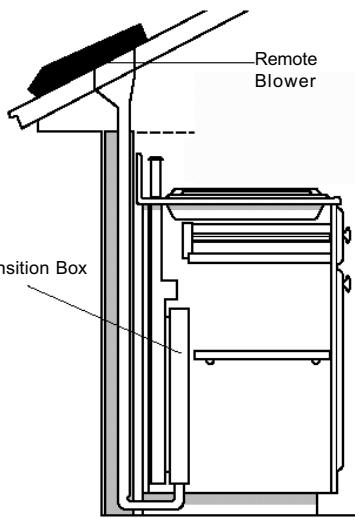

Fig. 3
F. Investigate potential ductwork routes and choose the shortest possible route from the unit to an outside wall or to the roof via an inside wall and attic. For guidance, typical ducting installations are shown in figures 3 through 6. Installation in island locations will require under floor ducting. Peninsula locations usually require ducting laterally through cabinets or under cabinet toespaces. Consider potential interferences to ductwork from building framing (floor joists, wall studs, etc.) and utilities (electrical wiring, water, gas, or sewer lines, etc).
Figures 3 through 6 are examples of possible ducting